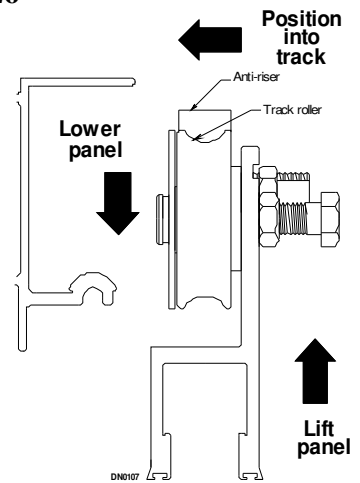

Figure 28
2. Lift door onto track. By slightly tilting door approach angle it will make it easier to allow rollers to catch track (See Figure 28).